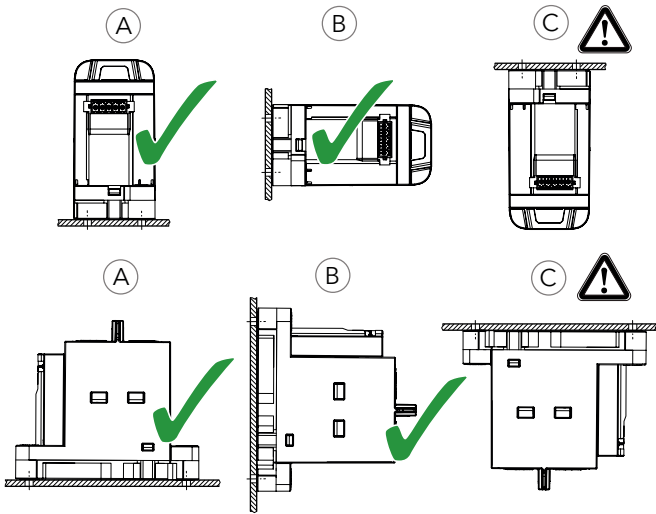
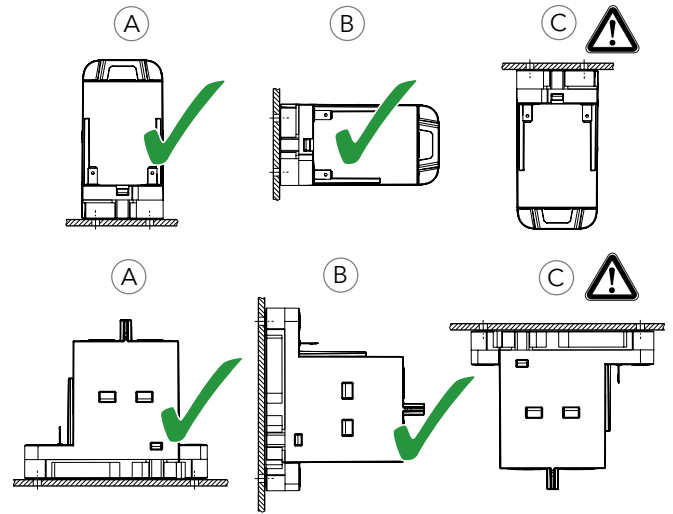

Fig. 6: C303-XXX-G0P-...: Examples of permissible mounting orientations
Fig. 7: C303-XXX-G0F-...: Examples of permissible mounting orientations
Contactor versions for screw mounting are designed for horizontal (A) or vertical (B) mounting, as shown for example in (Fig. 6 and Fig. 7). With the exception of HED devices, upside down mounting (C) is also possible.